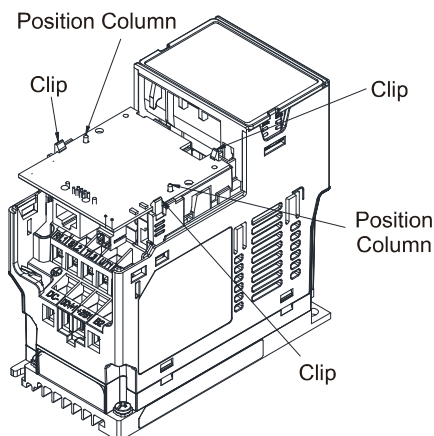

Figure 8-11
5. Assemble the option card: Have the terminal block and connector of the option card face downward, aim the two holes of the option card to the position column and press downward so that the three clips engage the option card, as shown in Figure 8-11.